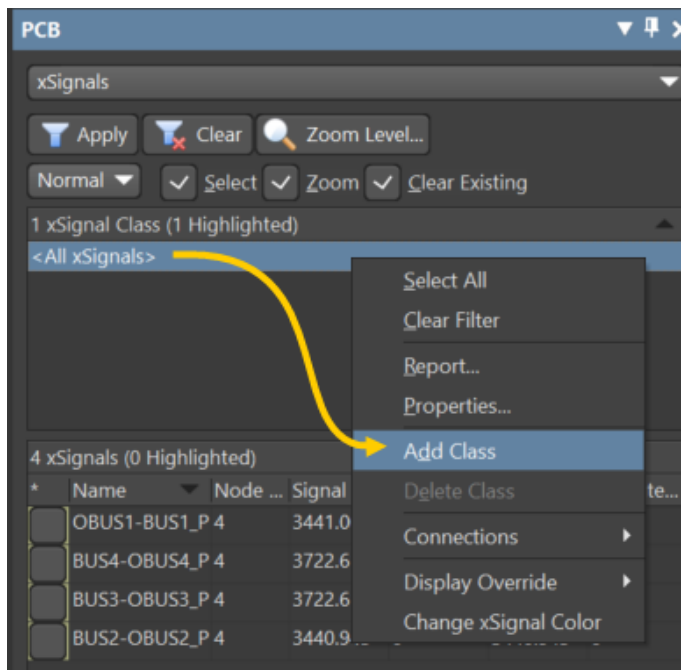

Figure 7. A new xSignal Class
12. Right-click anywhere in the *xSignal Class* pane and select **Add Class** as shown in Figure 7.